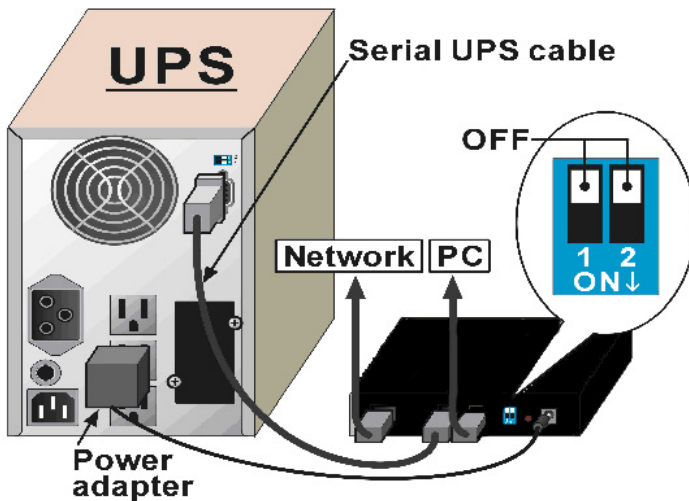

Figure 2: RemotEye II/External
3. Connect the UPS cable from the RS232 serial port of the Toshiba UPS to the RemotEye II/External UPS port.(See Figure 2: RemotEye II/External)